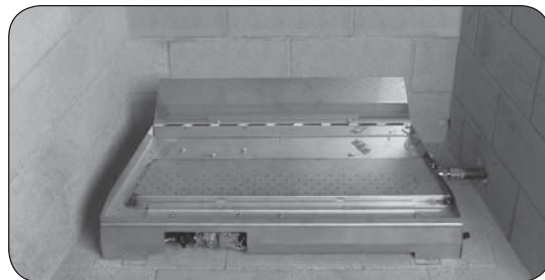

Fig. 8-2 Overall orientation (24" shown)
3. Place the burner system in the fireplace. Center the burner in the fireplace. (Reference Fig. 8-2 for orientation.)